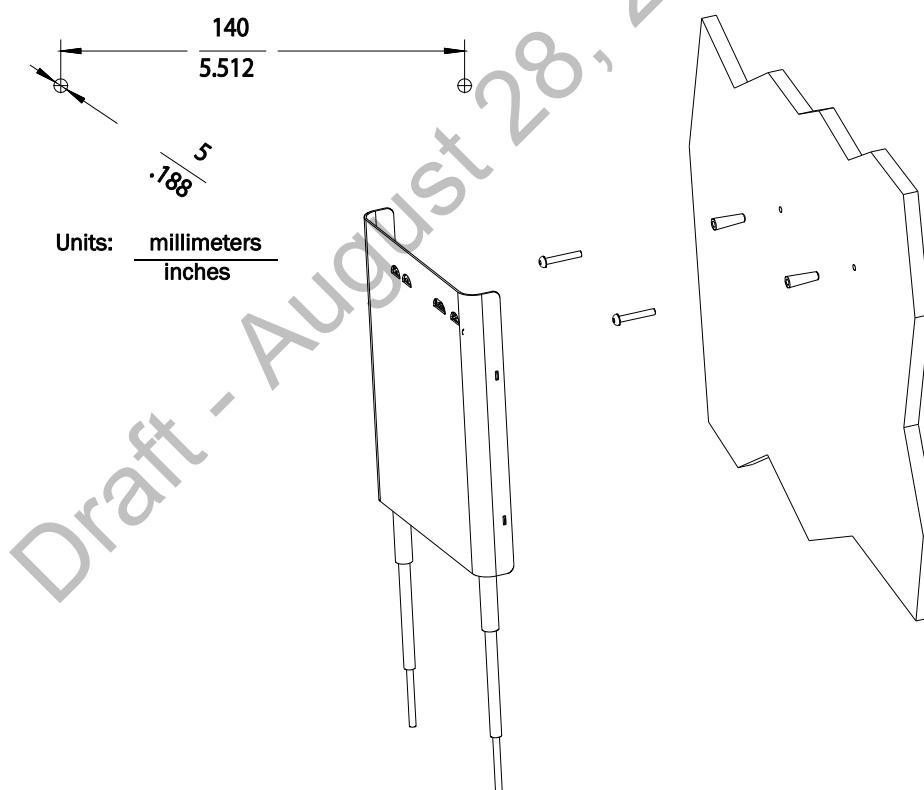

Figure 2-3: Mounting the IntelliVue Smart-hopping 1.4 GHz Core AP to a Wall (Fixed Mount)
1. Using a 3/16-inch drill bit, drill a pilot hole 0.188 inches (5 mm) in diameter at the locations shown in Figure 2-3.
3. Screw a supplied #6 x 1 1/4 inch self-tapping screw into each screw anchor (or pilot hole) as shown in Figure 2-3.
4. While holding the AP chassis with its antennas pointing down as shown in Figure 2-3, fit the holes in the back of the AP chassis over the screw heads that protrude from the wall. Slide the AP chassis down so that the screw heads are securely in the grooves in the back of the AP chassis.